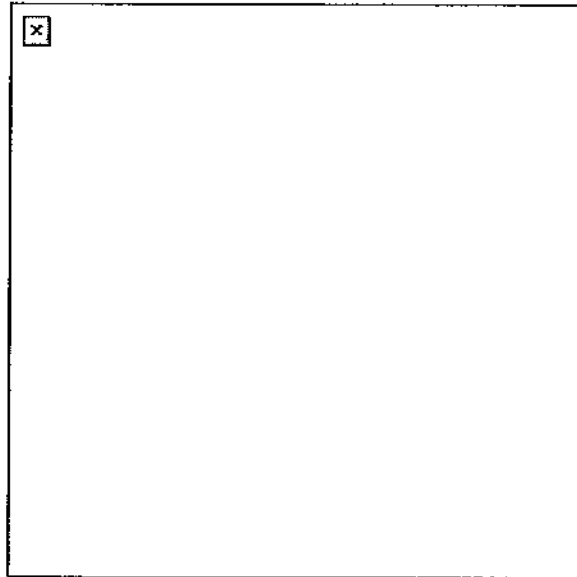

Figure 6. Prone position.
- a. Prone (Figure 6). To assume the prone position--
- (1) Lie flat on the ground, facing the target.